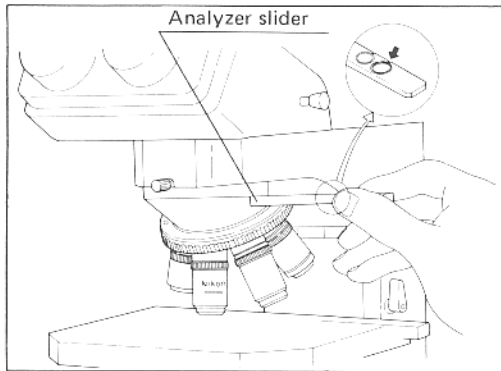

Fig. 33
- (1) Remove the filter slider by pushing out of the revolving nosepiece, and in place insert the analyzer slider in such a position that the groove on the slider faces toward the back as shown in Fig. 33.